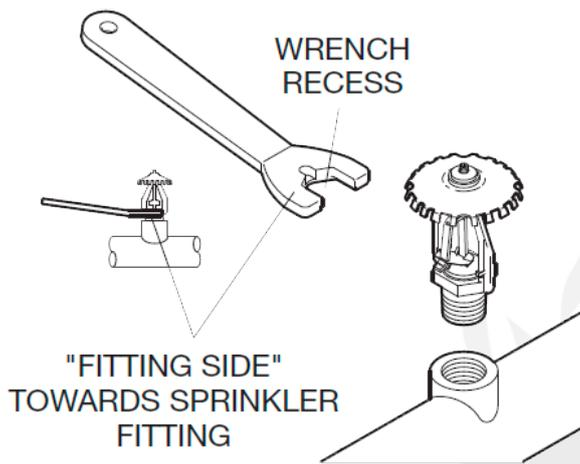

Figure 2. W-Type 21 sprinkler wrench.
Note: Install the Model ESFR-17 Upright Sprinkler in the Upright position (see *Figure 2*).
Step 2. Wrench-tighten the Model ESFR-17 Upright Sprinkler using only the W-Type 21 Sprinkler Wrench (see *Figure 2*) and by fully engaging (seating) the wrench on the sprinkler wrench flats (see *Figure 1*).